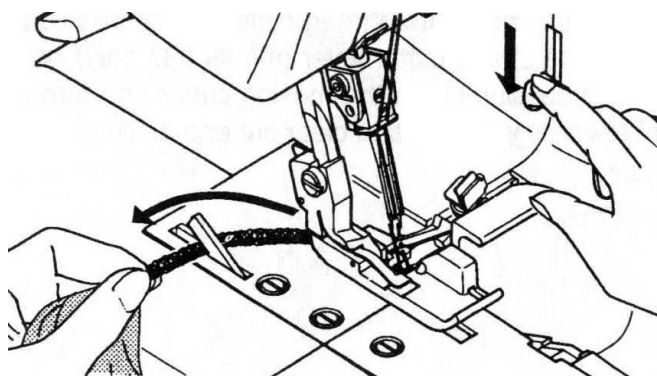

Fig. 3
Attach the two-thread convertor onto the upper looper as shown in Fig. 2, Fig.3.
Loops may hang off the edge, when you sew with lightweight fabric using 3 threads (right needle only), and setting cutting width dial at 4-5 (Fig.3). In such a case change the stitch finger (A) to (B) to get neat stitching (Fig.4)